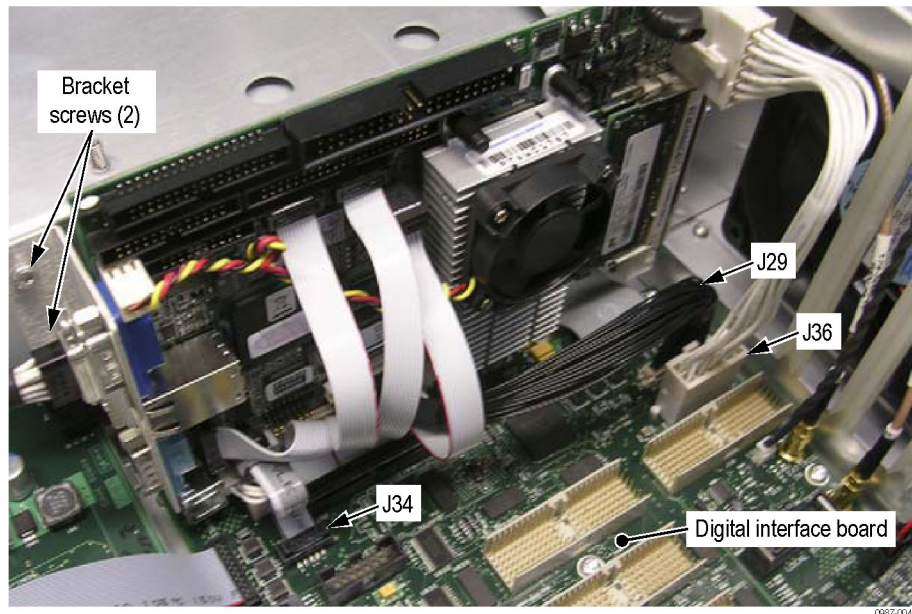

Figure 6: Cables J29, J34, and J36 locations [being updated, Mel]
6. Remove the two screws that secure the bracket to the side of the chassis using a T-15 driver. (See Figure 6.)